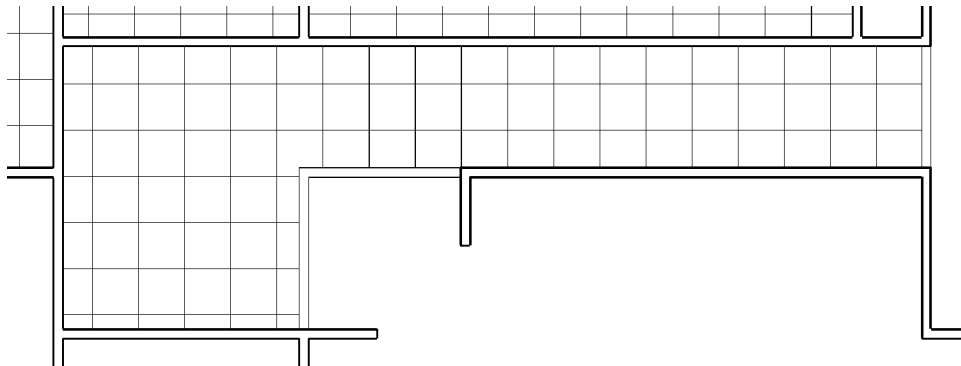

FIGURE 7-4.14 Hallway ceiling placed
33. Reposition the grid as shown in Figure 7-4.14.